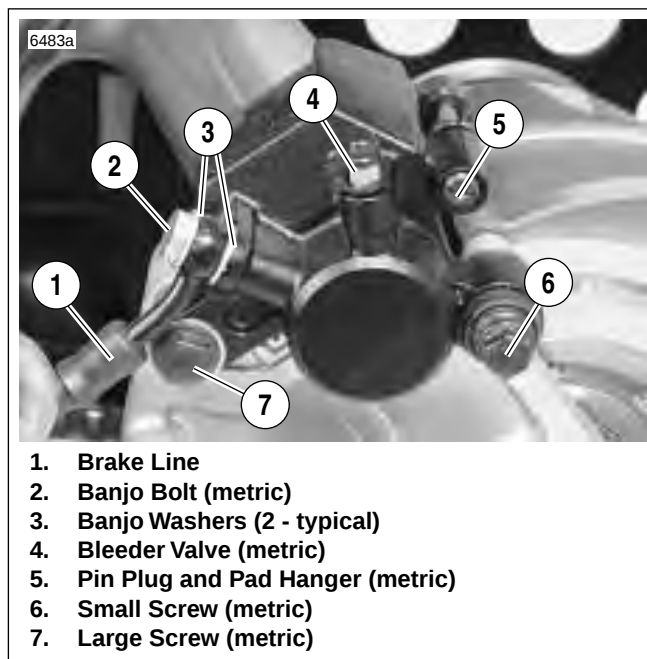
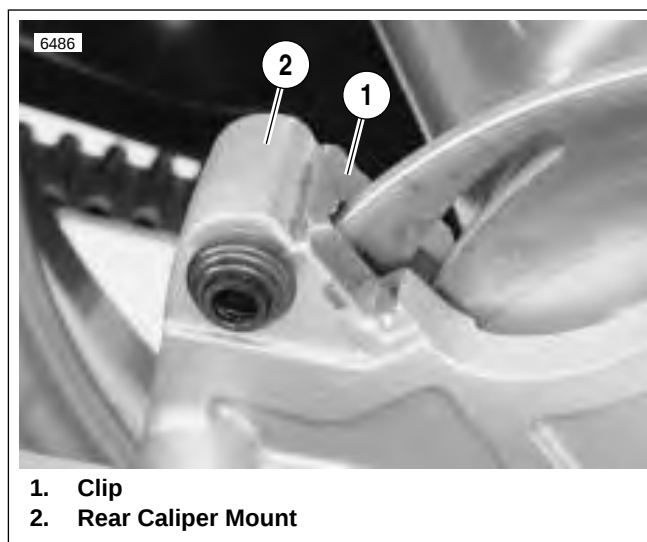

Figure 2-38. Rear Brake Caliper (Typical)
Figure 2-39. Caliper Mount Clip
2. See Figure 2-38. Remove banjo bolt (2) (metric) and two banjo washers (3) to disconnect brake line (1) from caliper. Discard banjo washers.
3. Remove small screw (6) (metric) and large screw (7) (metric) to detach caliper from mount.
4. See Figure 2-39. Remove clip (1) from rear caliper mount (2) if necessary.
1. See Figure 2-38. Remove pin plug and pad hanger (5) (metric) to free brake pads.
1. See Figure 2-39. Install caliper mount clip (1) if removed.
2. See Figure 2-38. Install caliper assembly on caliper mount. Brake pad surfaces must face rear brake rotor.
- b. Install large caliper screw (7) (metric). Tighten to 18-22 ft-lbs (24-30 Nm)
- c. Install small caliper screw (6) (metric). Tighten to 14.5-18 ft-lbs (20-24 Nm).